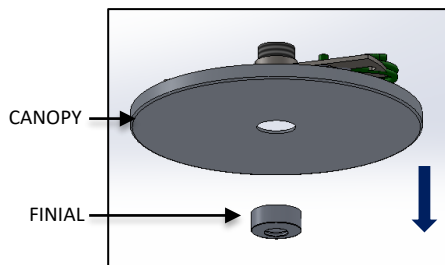

FIG. 16 - CANOPY DIS-ASSEMBLY
1. Loosen the CANOPY FINIAL and remove CANOPY as shown in FIG. 16. Be careful not to scratch finish